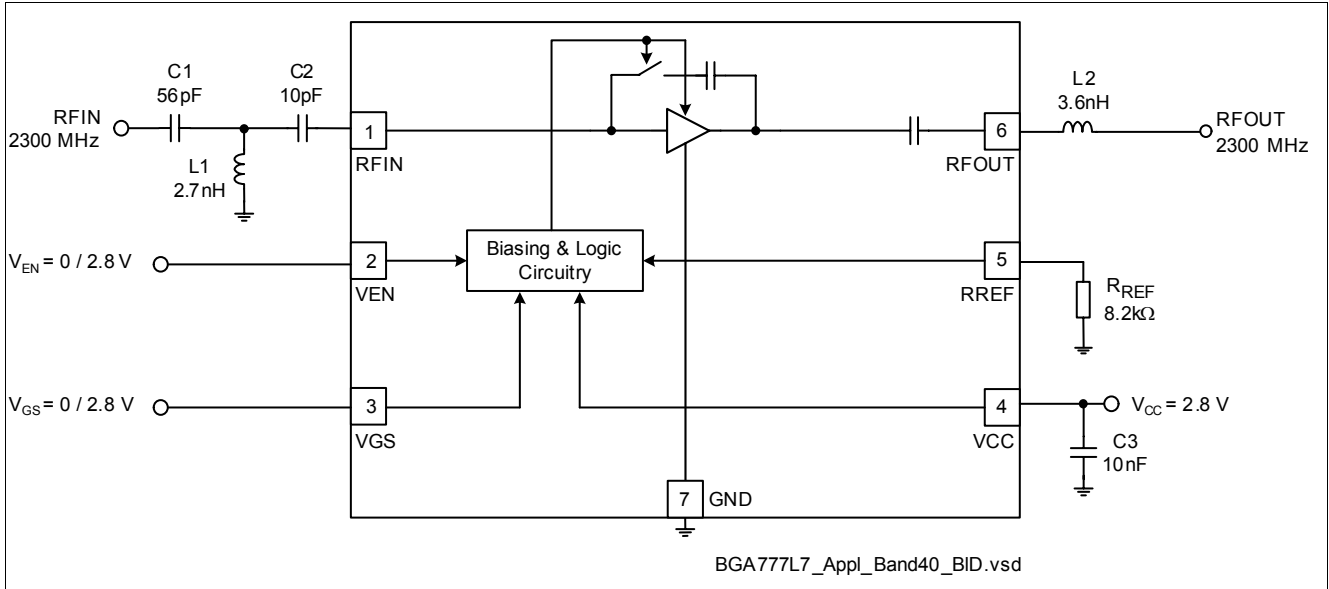

Figure 4 Application circuit with chip outline (top view)
1) Performance based on application circuit in Figure 4 on page 19